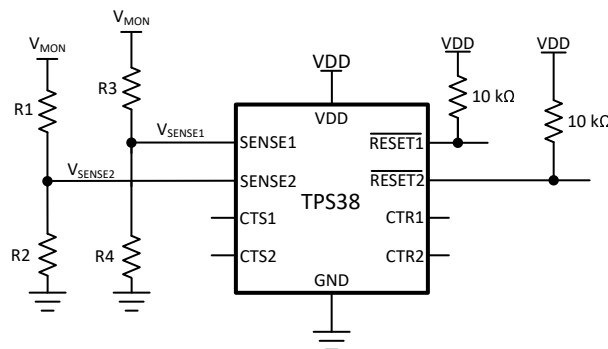

図 8-10. Adjustable Voltage Threshold with External Resistor Dividers
For example, consider a 12 V rail being monitored V_{MON} for undervoltage (UV) using channel 1 of the TPS38A010122DSKR variant. Using 式 7 and shown in 図 8-10, R_1 is the top resistor of the resistor divider that is between V_{MON} and V_{SENSE2} , R_2 is the bottom resistor that is between V_{SENSE2} and GND, V_{MON} is the voltage rail that is being monitored and V_{SENSE2} is the input threshold voltage. The monitored UV threshold, denoted as V_{MON-} , where the device will assert a reset signal occurs when $V_{SENSE2} = V_{IT-(UV)}$ or, for this example, $V_{MON-} = 10.8V$ which is 90% from 12 V. Using 式 7 and assuming $R_2 = 10k\Omega$, R_1 can be calculated shown in 式 8 where I_{R1} is represented in 式 9: